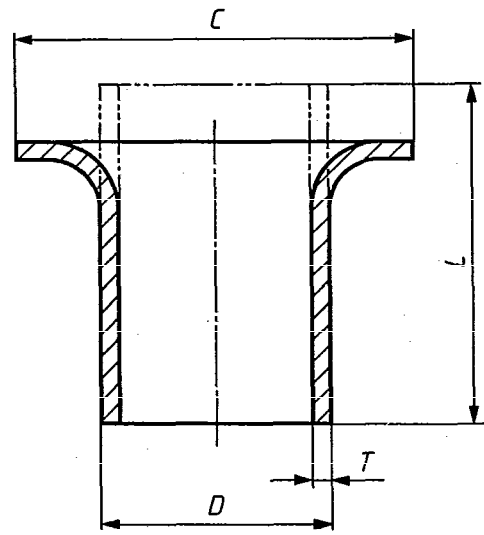

Figure 4
5.4 Flanging test (see figure 4)